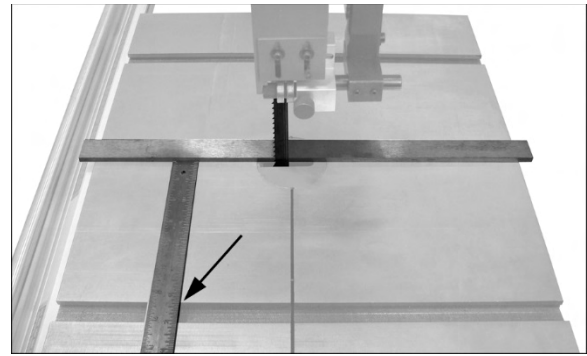

Figure 5-15
1. With blade tension lever in *tension* position, place a long straightedge flush against blade, making sure it evenly contacts both front and back of blade. See Figure 5-15. *Do not deflect blade by pushing into it.*
2. Use a gauge or ruler (Figure 5-15) to carefully measure distance from miter slot edge to straight edge. Take measurements at both front and back of table – these should be identical.